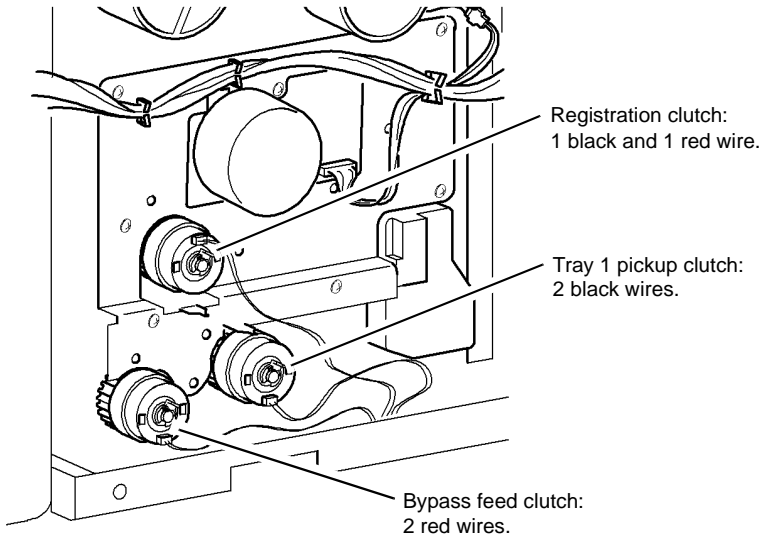

Figure 3 Clutch placement
3. Ensure that the clutches are installed in the correct position, refer to Figure 3.